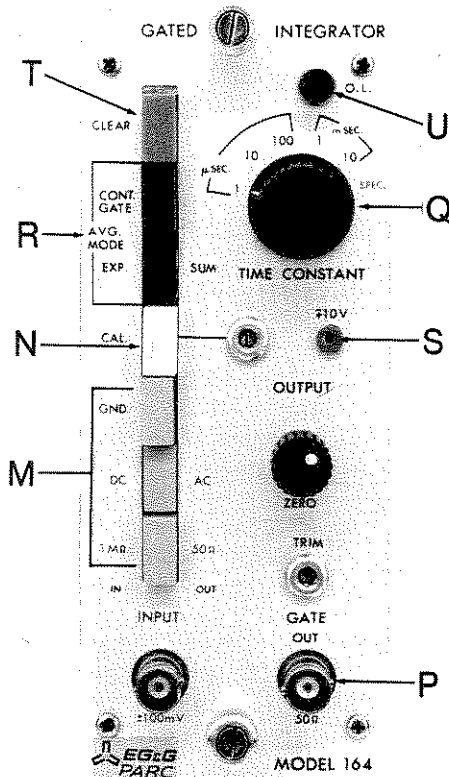

Figure IV-3. MODEL 164 PROCESSOR MODULE
4.3C MODEL 164 PROCESSOR MODULE (Figure IV-3)